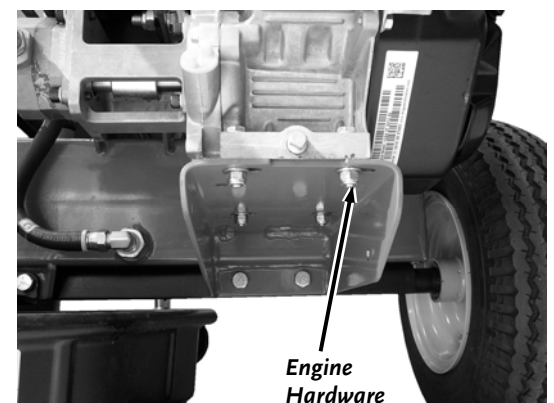

Figure 3
6. Position the Engine with Pump onto the Frame Mount and secure with the new Bolts, Washers (one Washer on Bolt side and one on Locknut side) and Locknuts using two 1/2" Wrenches (**Figure 3**).